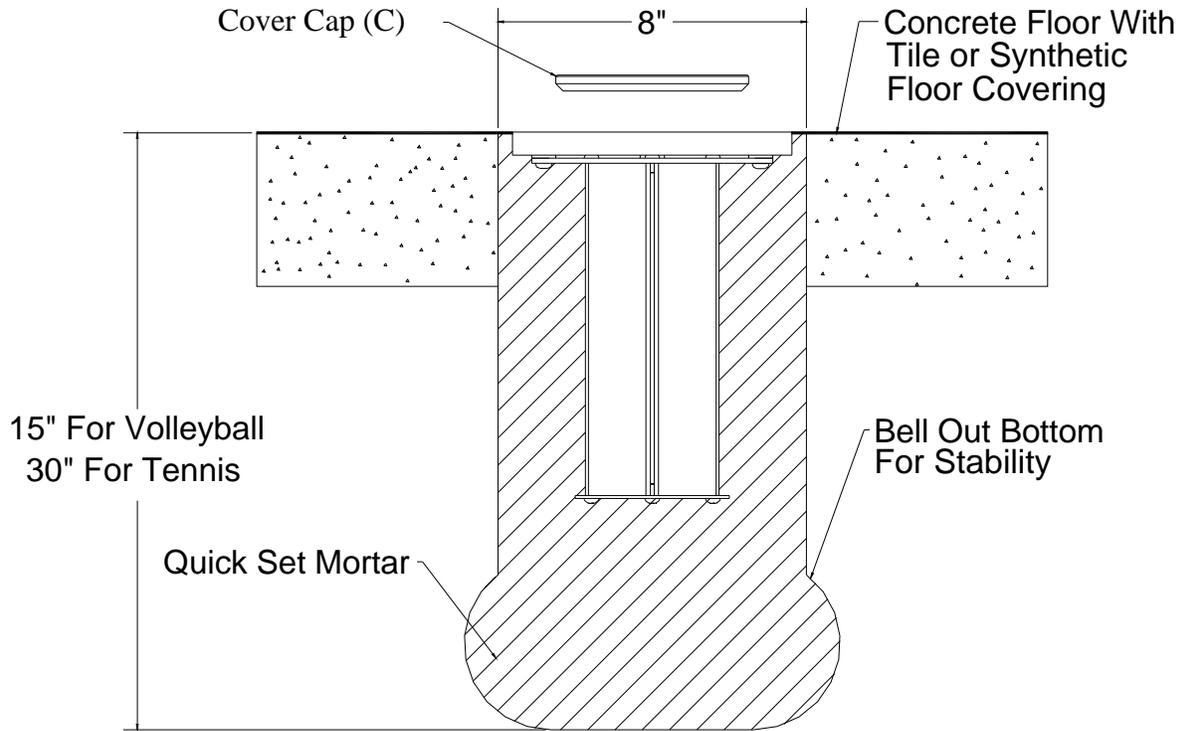

Figure 2
3. When installing sockets indoors the hole needs to be 8" diameter X 15" deep for volleyball and 30" deep for tennis. See Figure 2.
5. Use Cover Cap (C) when socket is not in use.